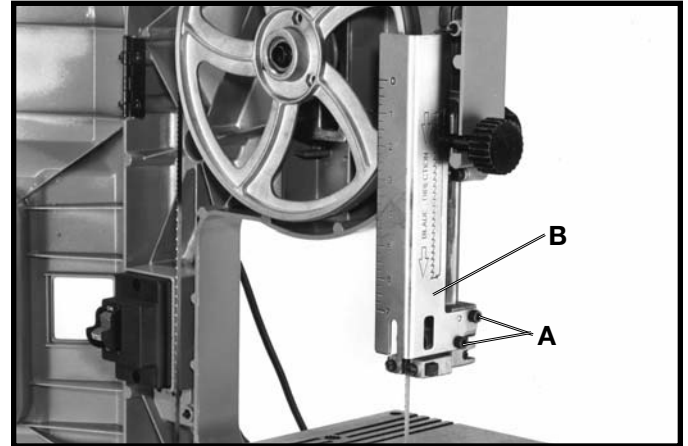

Fig. 22
2. Remove two screws (A) Fig. 22, and remove blade guard (B) from guide assembly.